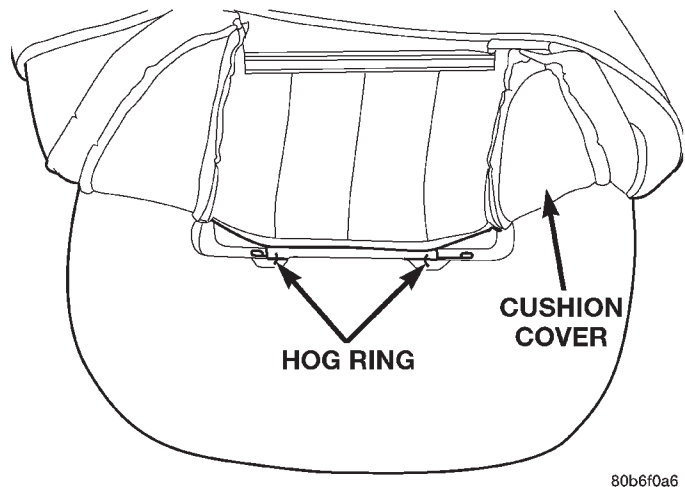

Fig. 8 Seat Cushion Cover
- (1) Remove seat from vehicle.
- (2) Remove seat back.
- (3) Disengage J-straps attaching cushion cover to seat cushion frame.
- (4) Disengage hog rings attaching cushion cover to cushion frame (Fig. 8).
- (5) Route seat function switches through access hole on outboard side of seat cushion, if equipped.
- (6) Disengage seat cushion heater element connector, if equipped.
- (7) Separate seat cushion cover from seat cushion.